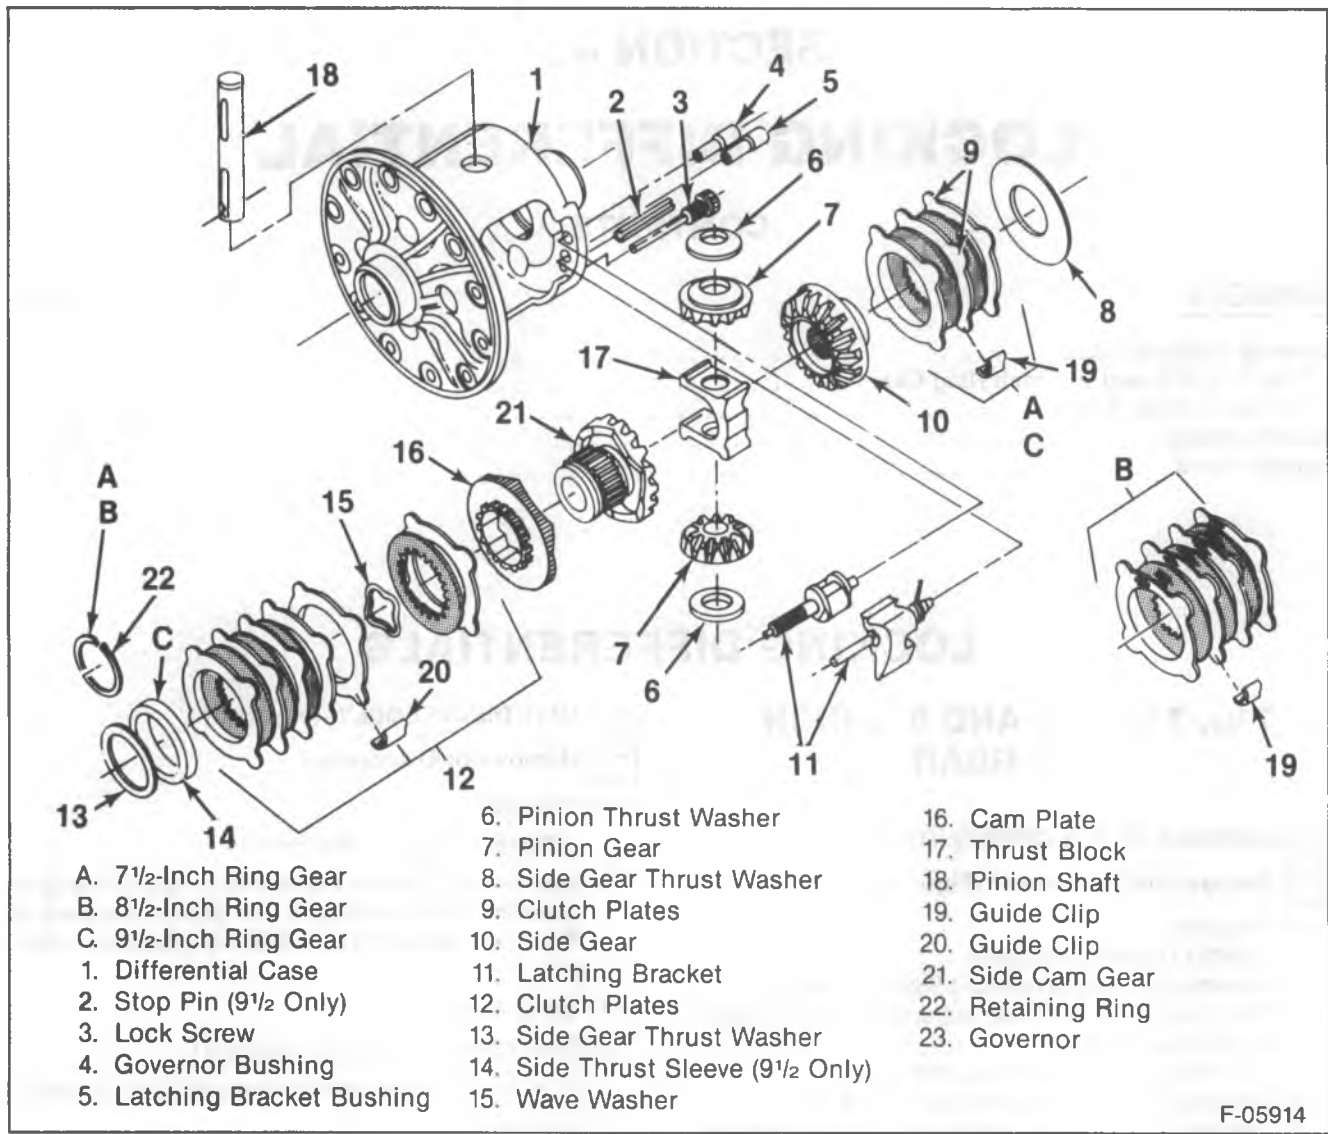
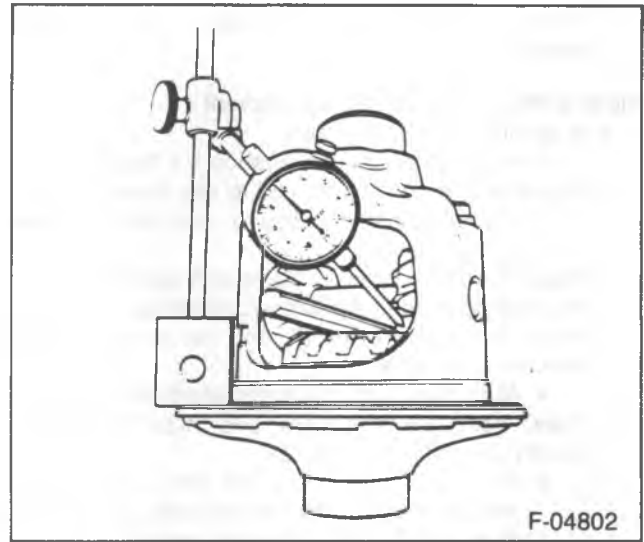
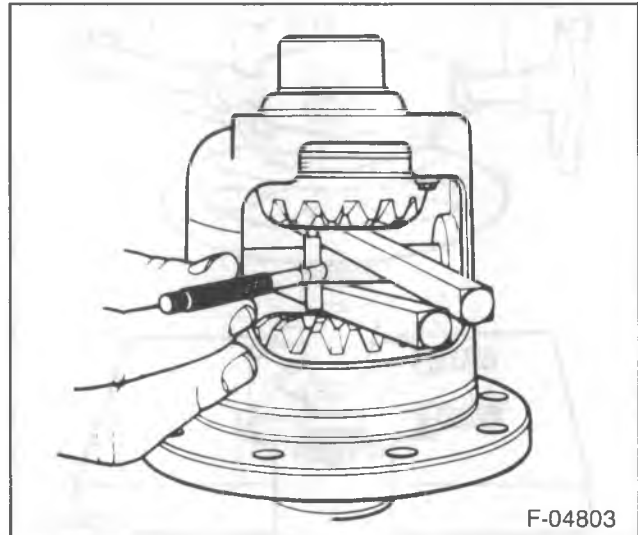

Figure 1—Differential Components
Figure 5—Checking Cam Gear Backlash
Figure 6—Measuring Side Gear Spread
Remove or Disconnect (Figure 1)
Remove or Disconnect (Figures 1 and 3)
1. Cam plate (16) to the cam side gear (21).
- Alternate the plates as shown in figure 1.
4. Thrust sleeve (14).
5. Guide clips (20) to the plates.
- If the side gear or thrust sleeve has been replaced, measure and record the overall length of the gear assembly from the front of the gear to the back of the thrust sleeve (14) including the side gear washer (13).
1. Install the cam unit and thrust washer (13) to the flange end of the case.
2. Place the pinion gears (7) and thrust washers into the differential.
3. Press down the side gear, and install the pinion shaft (18) and lock screw (3).
6. Mount a dial indicator to the ring gear flange, and place the stem of the indicator on one of the teeth on the pinion gear closest to the lock screw (figure 5).
2. Assemble the guide clips (19) to the plates.
3. Install the thrust washer (8), clutch plate assembly (9), and right side gear to the differential.
4. Place the pinion gears (7) and thrust washers (6) into the differential.
5. Press down the side gear, and install the pinion shaft (18) and lock screw (3).
8. Mount a dial indicator to the ring gear flange, and place the stem of the indicator on one of the teeth on the pinion gear closest to the lock screw (figure 5).
1. Left thrust washer (13) to the differential.
3. Right thrust washer (8) to the differential.
- Assemble alternatively as shown in figure 1.
5. Right side gear (10) to the differential.
6. Pinion shaft (18) and lock screw (3). Insert a large tapered tool such as a screwdriver firmly between each side gear and the pinion shaft.
- Measure the side gear spread (figure 6).
↔ Install or Connect (Figure 1)
1. Left thrust washer (13).
3. Right thrust washer (8).
4. Right clutch plates with guide clips (19).
5. Right side gear (10).
6. Thrust block (17), thrust washer (6), and pinion gear (7).